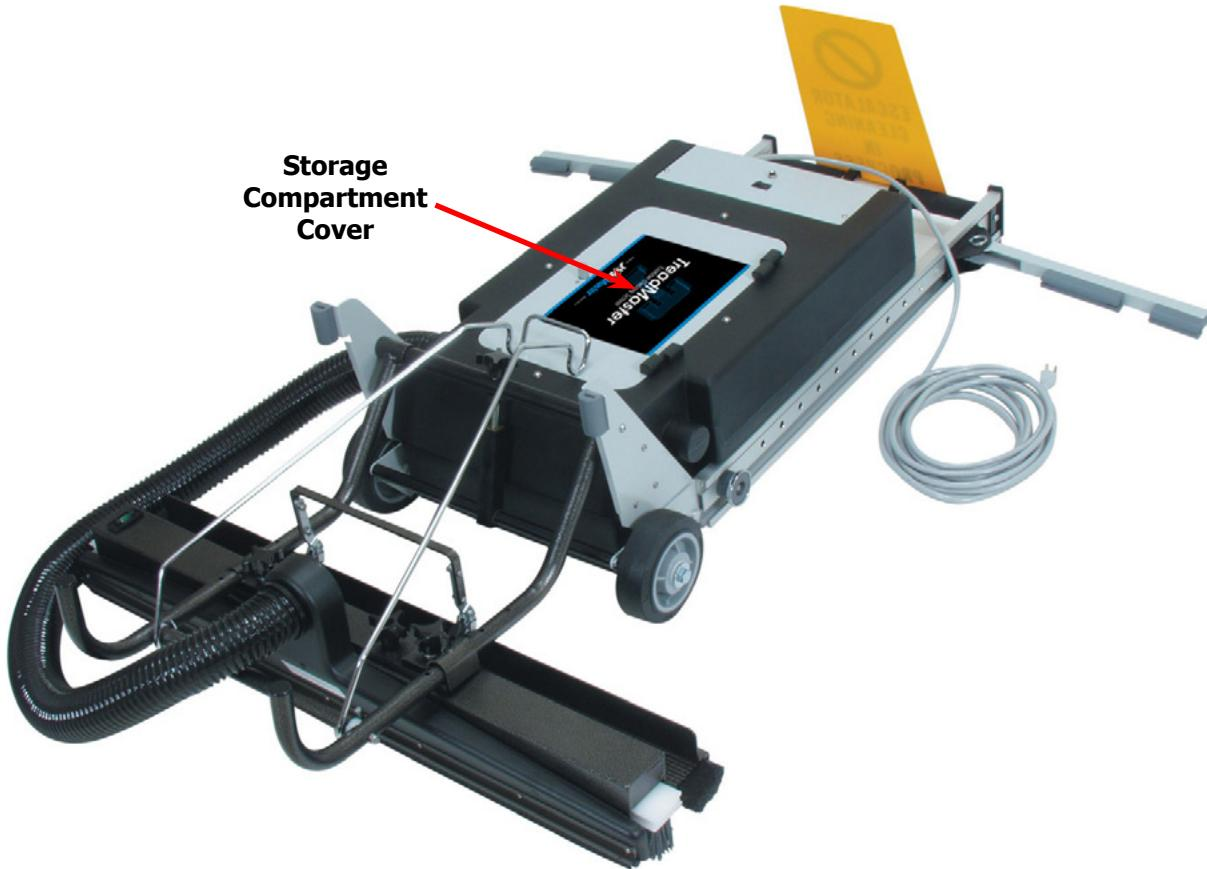

Figure 18. Vacuum Bag Located in Storage Compartment
1. Open the storage compartment cover (see Figure 18), remove the bag from its holder by releasing the safety catch.